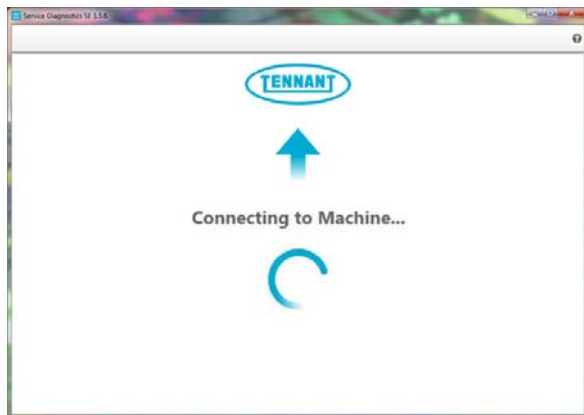

FIG. 14
4. The application software will connect to the machine. (Fig. 14)